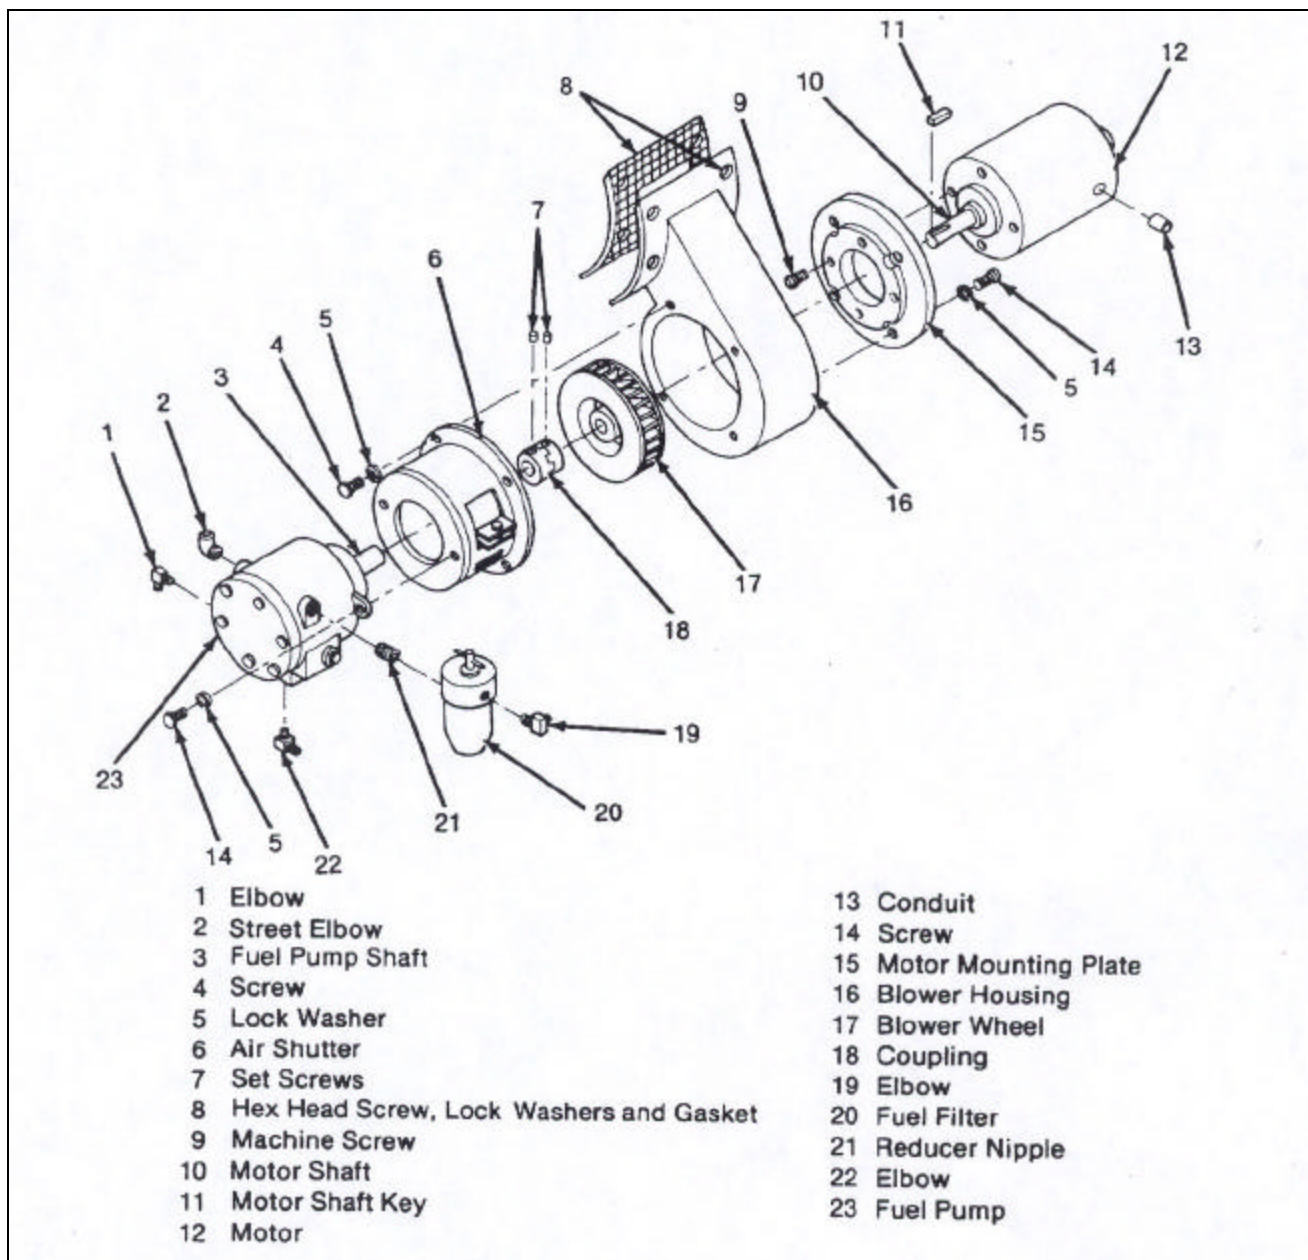

Figure 5-17
(l) Unscrew and remove fuel filter (20, **Figure 5-17**) from reducer nipple.
(m) Loosen two set screws in motor shaft coupling (7, **figure 5-17**) and slip coupling from fuel pump shaft.
(n) Unscrew and remove fuel filter reducer nipple (21, **figure 5-17**) from fuel pump (23).
(o) Remove two elbows (1,19, **Figure 5-17**) and straight elbow (2) from pump (23).